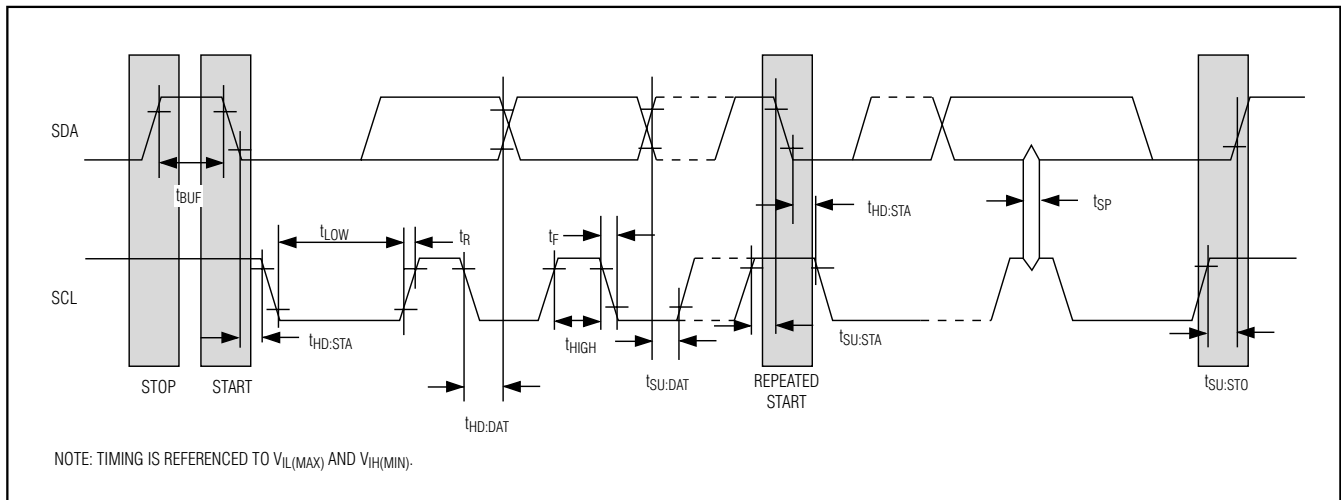

Figure 4. I2C Timing Diagram
**Bit Write:** Transitions of SDA must occur during the low state of SCL. The data on SDA must remain valid and unchanged during the entire high pulse of SCL plus the setup and hold-time requirements (see Figure 4). Data is shifted into the device during the rising edge of the SCL.
setup time (see Figure 4) before the next rising edge of SCL during a bit read. The device shifts out each bit of data on SDA at the falling edge of the previous SCL pulse, and the data bit is valid at the rising edge of the current SCL pulse. Remember that the master generates all SCL clock pulses, including when it is reading bits from the slave.
receiving data (the master during a read or the slave during a write operation) performs an ACK by transmitting a zero during the 9th bit. A device performs a NACK by transmitting a one during the 9th bit. Timing (Figure 4) for the ACK and NACK is identical to all other bit writes. An ACK is the acknowledgment that the device is properly receiving data. A NACK is used to terminate a read sequence or as an indication that the device is not receiving data.